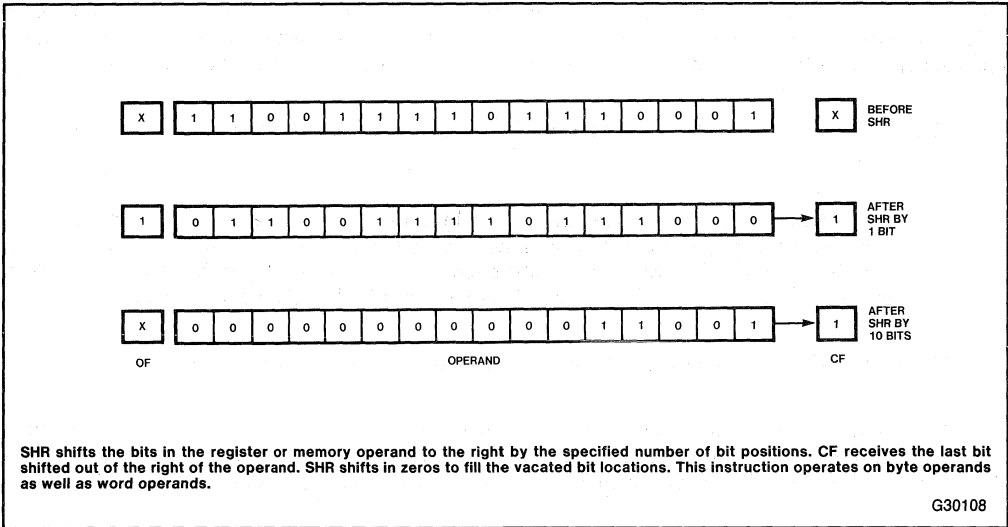

Figure 3-7. SHR
*SHR (Shift Logical Right)* shifts the destination byte or word operand right by one or by the number of bits specified in the count operand (an immediate value or the value contained in CL). The processor shifts zeros in from the left side of the operand as bits exit from the right side. See figure 3-7.